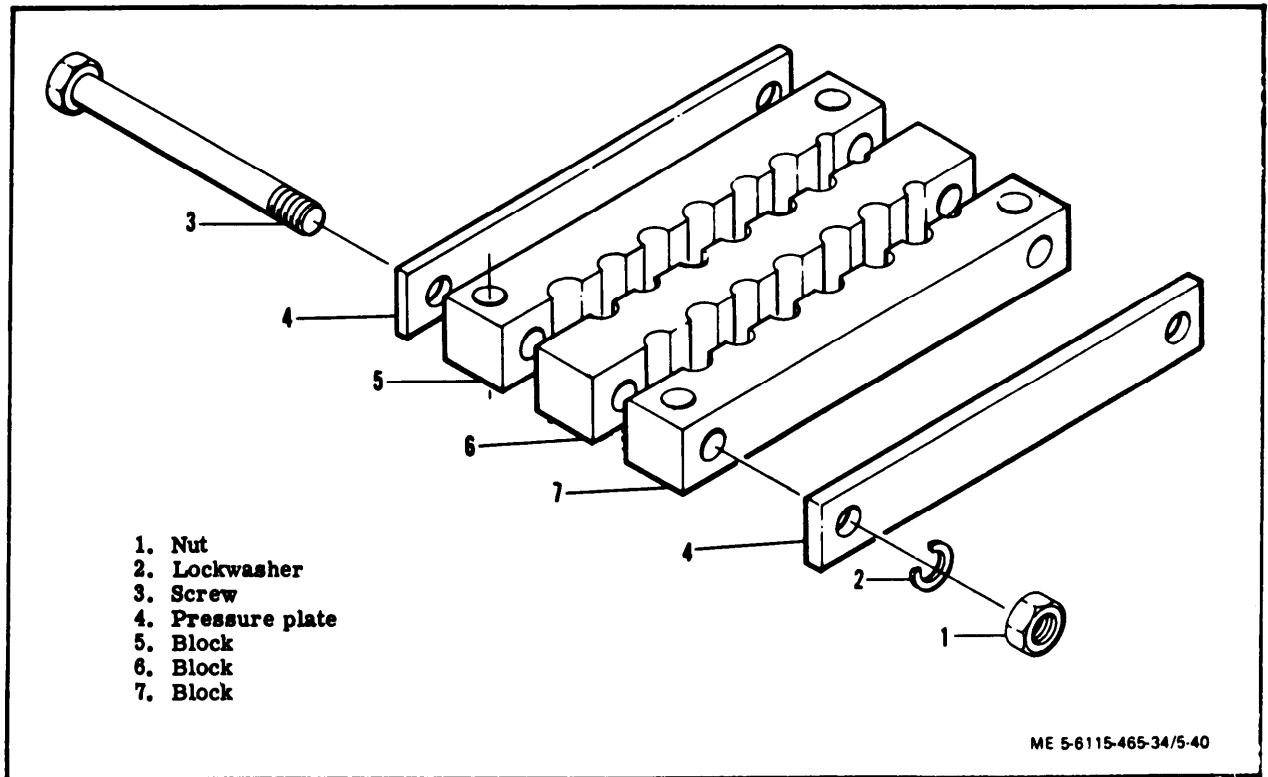

Figure 5-40. Lead Block Assembly, Exploded View
(30) If inspection reveals damage to the lead block assembly, disassemble as follows:
(a) Remove nuts (1, figure 5-40), lock washers (2) and screws (3).